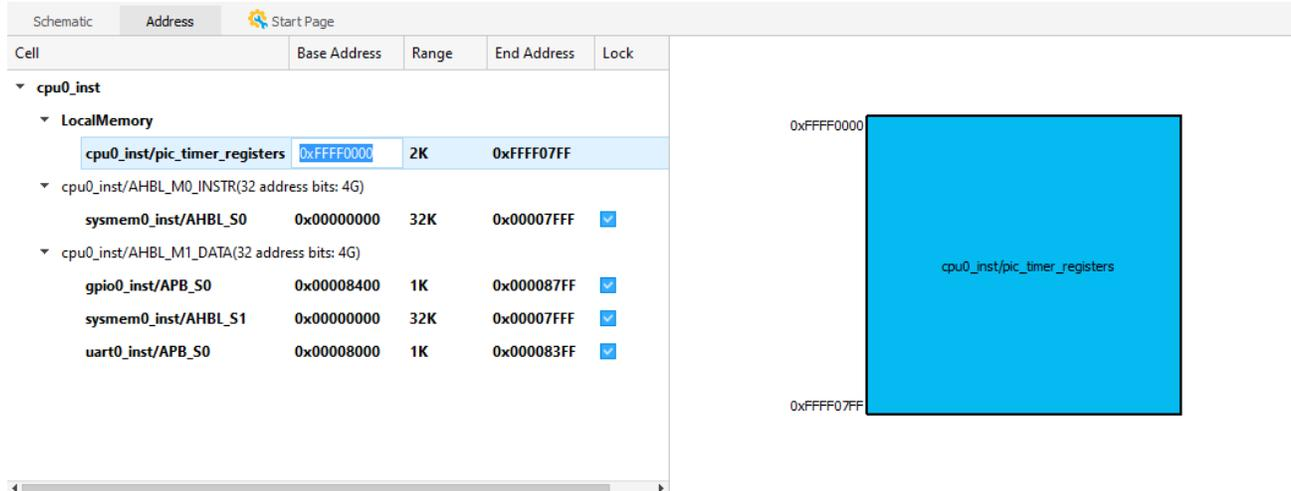

Figure 2.57. Edit Base Address
4. (Optional) Double-click the base address in Address view (Figure 2.57). Type the new value and press **Enter**. Values must align with 1K boundaries, such as 0x00000400, 0x00000800, or 0x00000C00. The end address value changes based on the new value. The Lock option is selected automatically at this time.